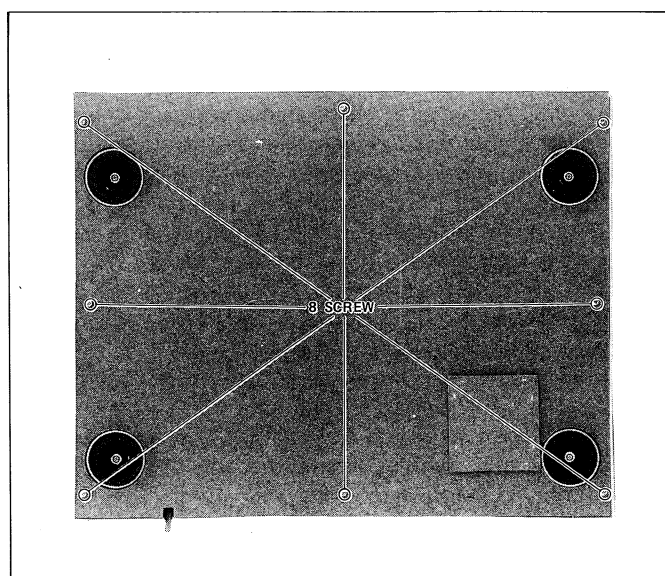

Figure 3-5
3. Remove 8 screws from the bottom board and detach it. See Figure 3-5.